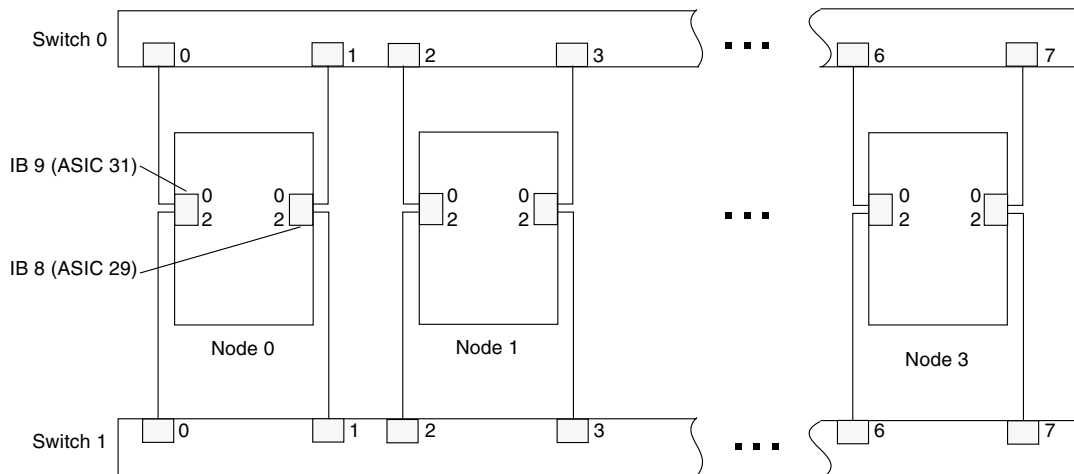
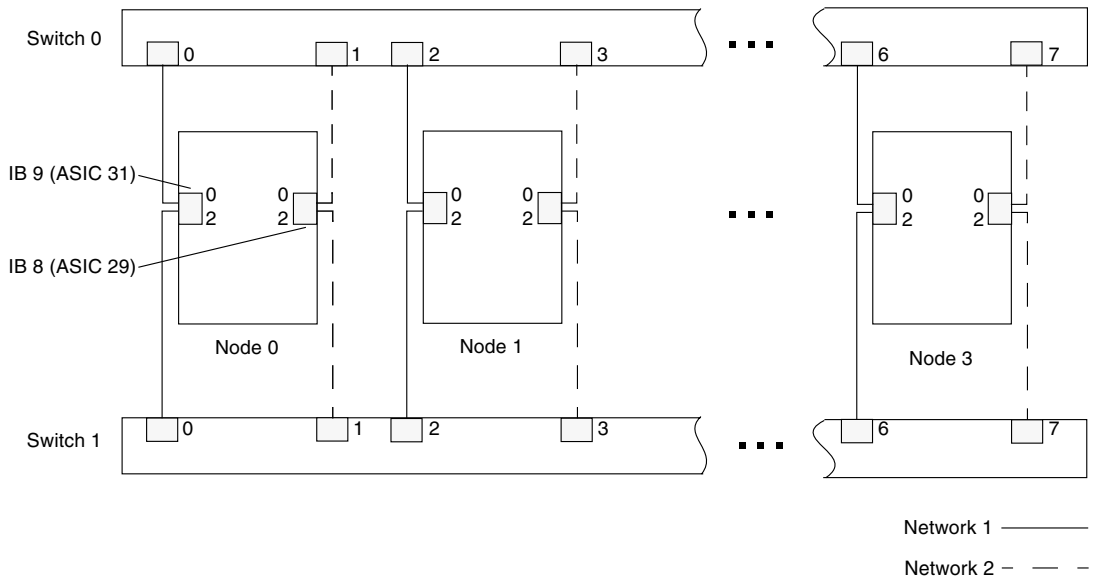

FIGURE 2-11 Two- to Four-Node Configuration With Two Switches
FIGURE 2-12 Two Networks in Two- to Four-Node Switch Configuration for Sun Clusters Configurations
- A three-node configuration with four-way striping requires two switches (FIGURE 2-11).
Sun Clusters configurations require two networks. Although a Sun Clusters configuration (FIGURE 2-12) is cabled the same as FIGURE 2-11, there is just WCI striping (two-way striping) in this configuration because of the requirement of having two networks.